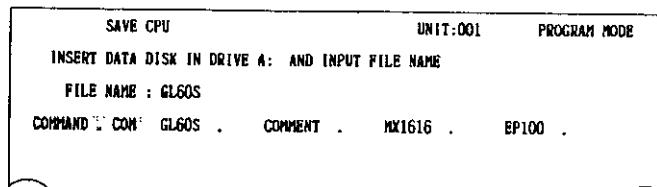

Fig. 3.63
2. Depressing DIRECTORY key displays the file names. (Fig. 3.63)